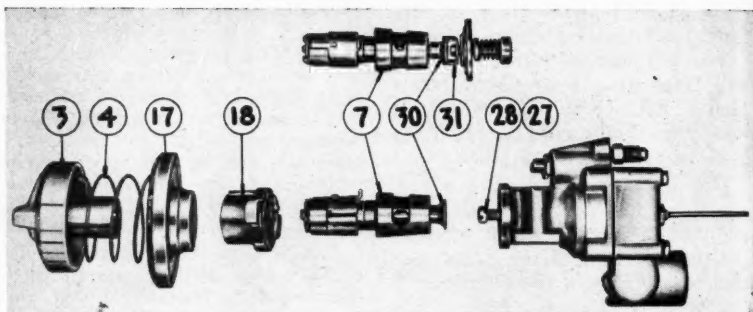

Fig. 18.
First, shut off gas in the supply line and turn the temperature dial (3) in Fig. 18 to the "OFF" position. Next, grasp bezel (17) and pull it with spring (4) and dial (3) from shank of gascock plug (7). Loosen screws (27 and 28) about 4 complete turns, but do not remove. Then guide (18) may be rotated counter-clockwise and removed. Grasp shank of gascock plug (7) and pull out of body, without turning right or left. Clean gascock plug and cavity in
Before reassembling the gascock plug, notice the brass, bell-shaped piece (30) that extends through the end of the gascock plug. Notice too, the two slots of unequal size in this piece. Now look into the cavity of the body. There you will see two brass arms (31) of unequal size, near the bottom of the cavity. These two arms slide into the two slots and, being of unequal size, the arms and slots must be matched. The inset (Fig. 18) shows how these two parts mate when assembled.